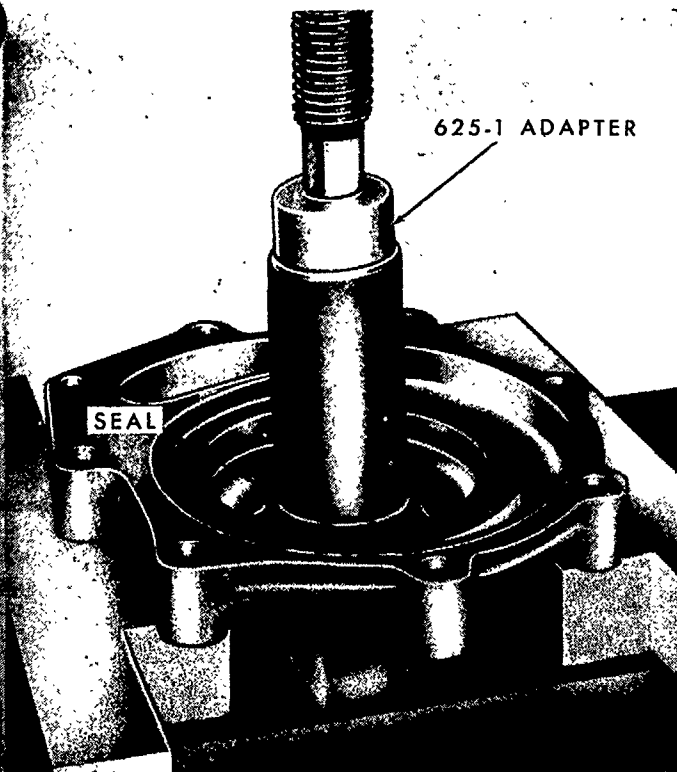

Figure 86
2. Using a piece of $1\frac{5}{16}$ in. (33 mm.) I.D. gas pipe and No. 625-1 Adapter, press a new seal into the pump housing, Figure 86.